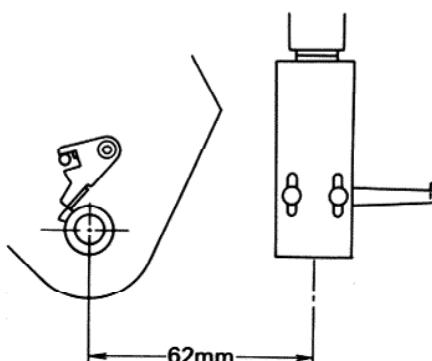
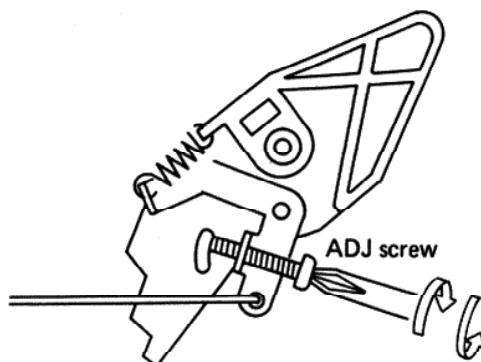

Fig. 41
Fig. 42
5. At this time, so that distance indicated in Fig. 41 becomes 62 ± 2 mm, adjust screw shown in Fig. 42.